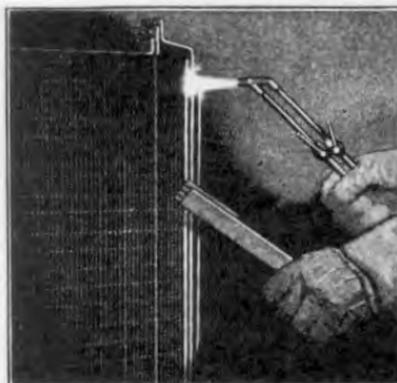

Fig. 406
- 814 Place the radiator on its side (See Fig. 406) and apply the heat to the side seam, commencing at the point where outlet connection is soldered to side seam. With a brush remove the heated solder as it flows from the joint. Do this on all four seams. When the joints show that most of the solder has been removed, bring all the tank to heat at once by moving the torch rapidly over it. Grasp the outlet connection with a pair of pliers and remove the tank, applying heat to any point that may be sticking.